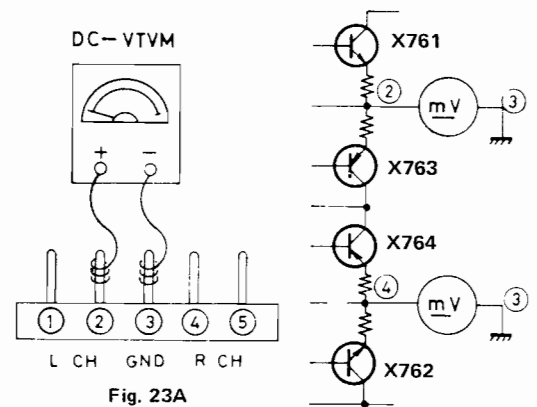

Fig. 23A
2. Connect ground lead of DC VTVM to pin 3 (pin 3) and connect probe of DC VTVM to pin 2 (pin 4). Refer to Fig. 23A.